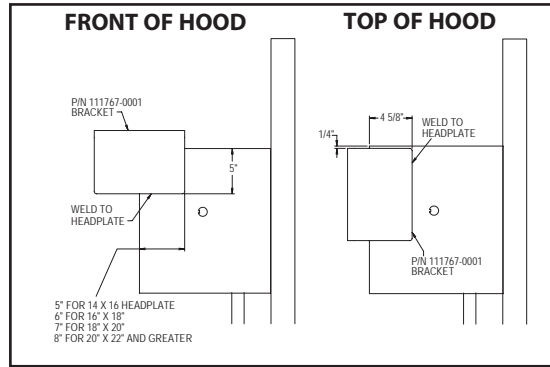

Figure 1 WELD PLATE ATTACHMENT
- 2) Weld the Rolling Door weld plate assembly to the door headplate, A minimum of two 1" weld beads are required on each side of the weld plate for proper attachment. See **Fig 1** for proper placement.